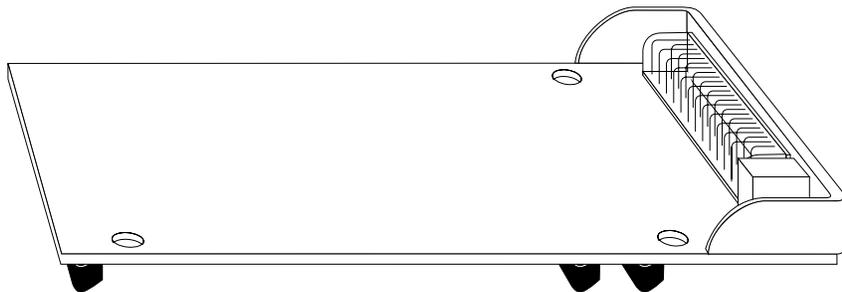

Figure 3-2 Presenter 1280 Board
4. Identify the Presenter 1280 board that came with this package. See Figure 3-2.